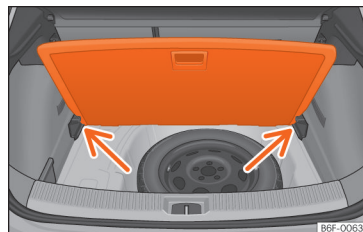

Fig. 112 Variable luggage compartment floor:
- Rest the floor on its housings » **Fig. 112** [arrows].